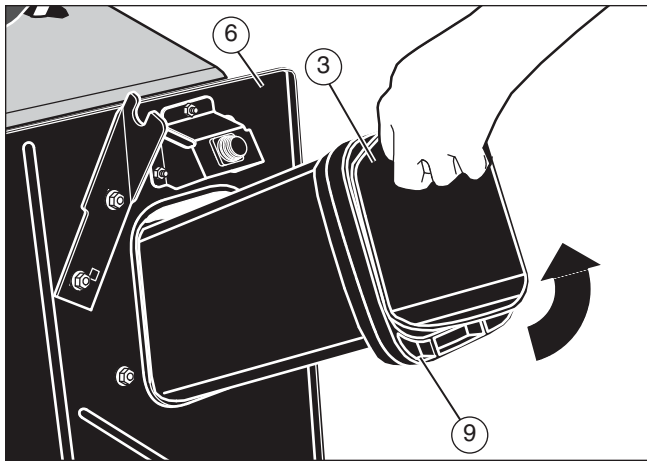

Figure 21
8. Pull the connector tube (3) through hole in rear plate (6) (see **Figure 21**).
9. Clean the connector tube (3) with soap and water.